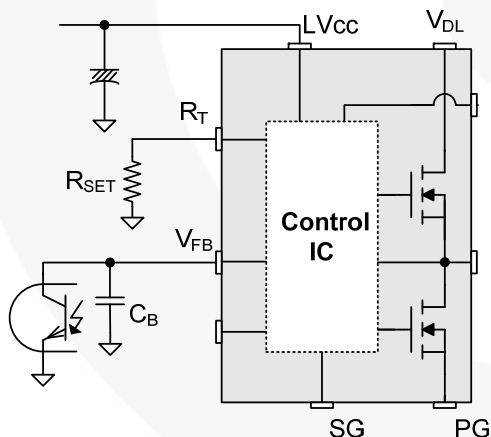

Figure 18. PWM Control Configuration
2. PWM Control: Figure 18 shows the typical control circuit configuration. The opto-coupler transistor should be connected to the V_{FB} pin in parallel with the feedback capacitor to control the duty cycle.